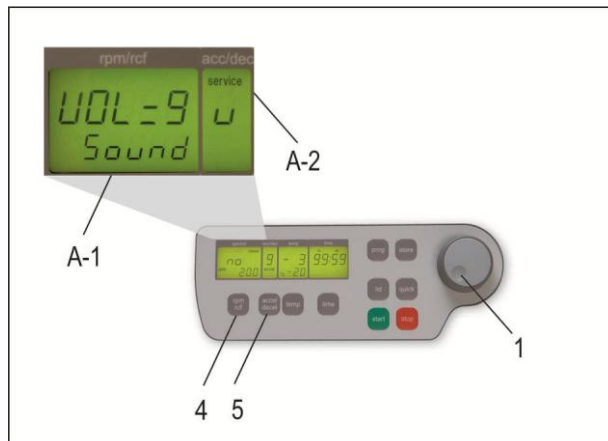

Figure 6
Proceed as illustrated, under point 1.8.1, to enter this program mode, press the key "accel/decel" (5). In the display, "accel/decel" (A-2), flashes the word, "service". Select the letter, "U" with the adjustable knob (1). As a result, appearing in the display, "rpm/rcf" (A-1), are the words, "Vol=0-9/Sound". By pressing the key, "rpm/rcf" (4), the desired volume can be adjusted between 0 (low) and 9 (loud), with the adjustable knob (1), (see Figure 6).